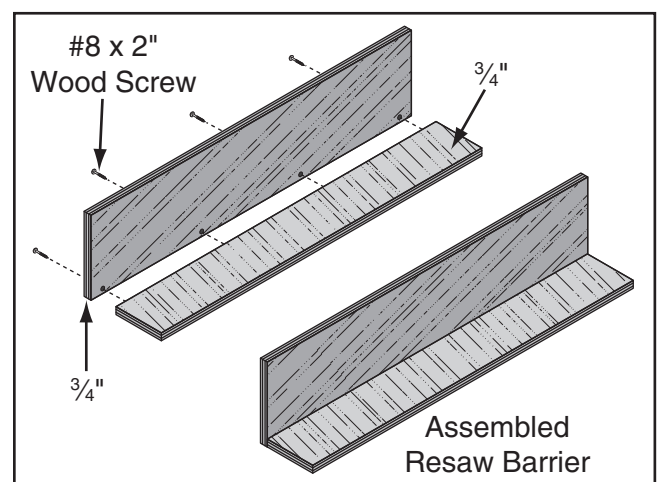

Figure 63. Resaw barrier.
3. Glue the end of the 3" board, then clamp the boards at a 90° angle with the larger board in the vertical position, as shown in **Figure 63**, then fasten together with the wood screws.